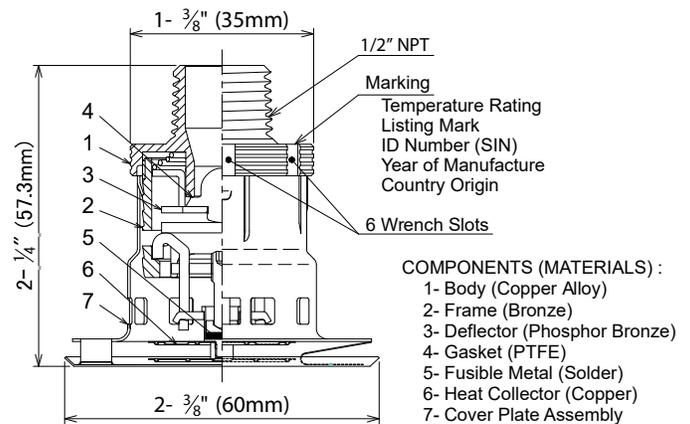

Figure 1: Model CN-RES K = 4.9
- **Physical Characteristics:** Ref. Figure 1